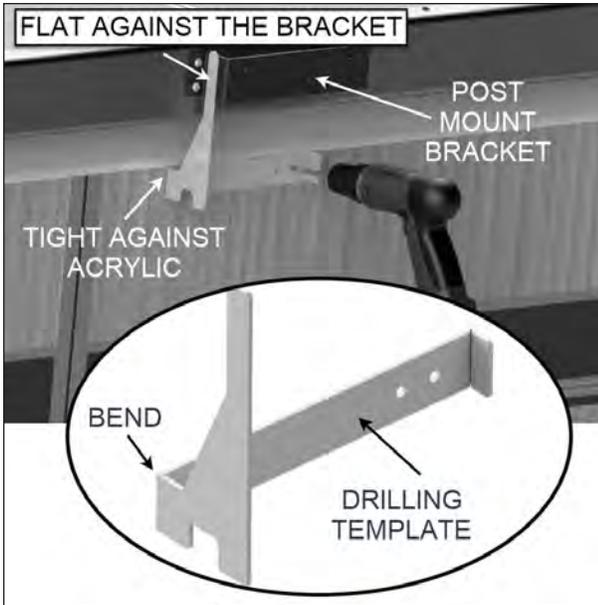

FIGURE 74: HOLE DRILLING
4. Drill the four top holes of every post using the drilling template and the provided 9/32" drill bit see Figure 74. The hole must go through the first metal layer of the spa frame (about 2½" (6.35 cm) deep into the panel).
Make sure the bend is still at 90° see Figure 74.